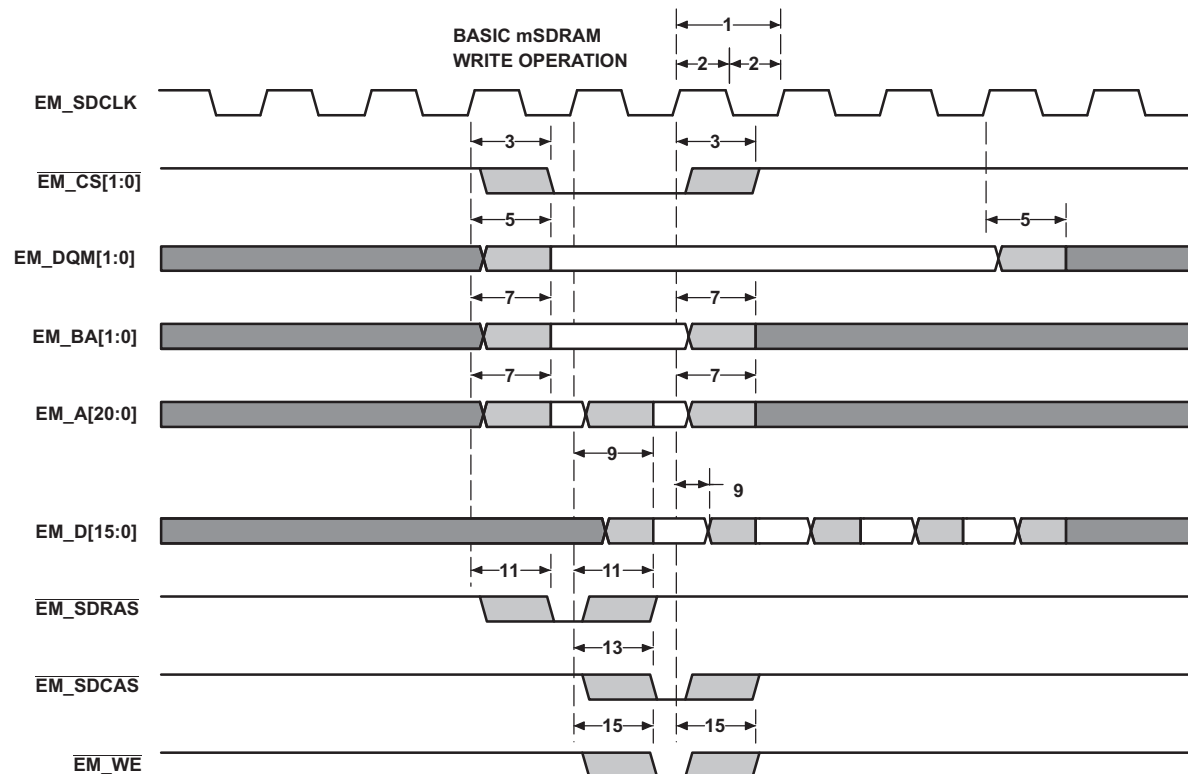
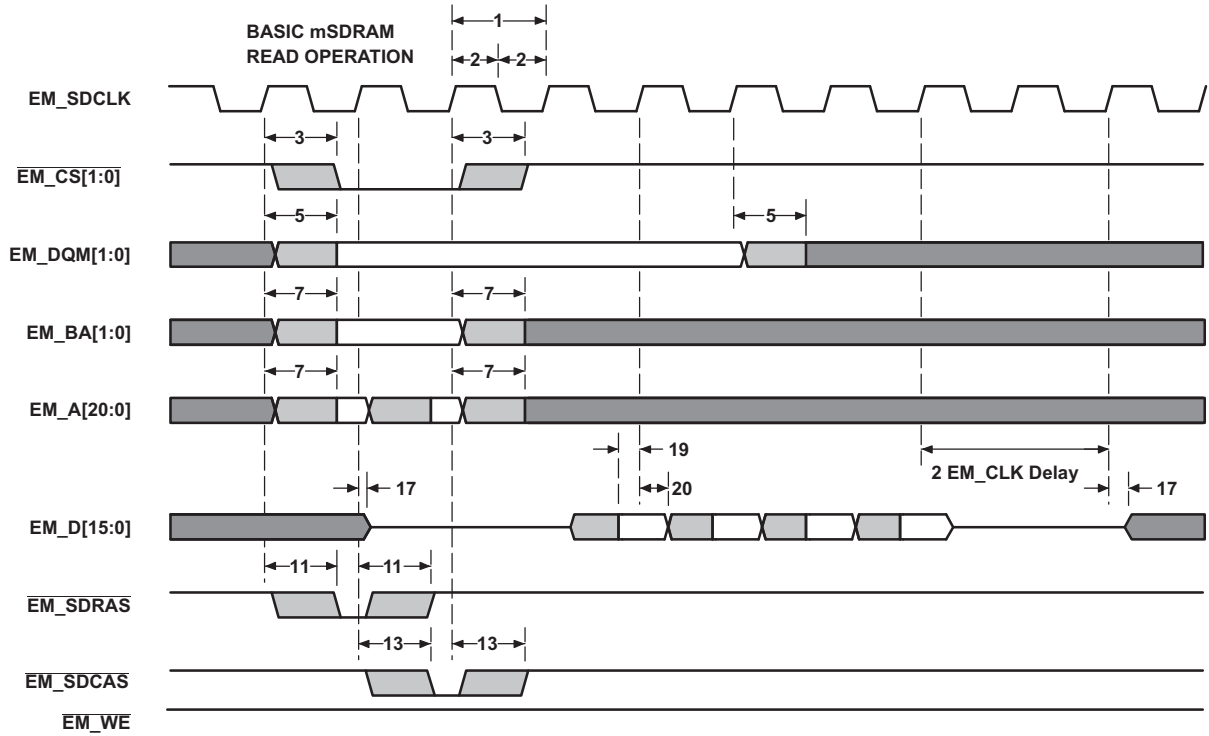

Figure 5-15. EMIF Basic SDRAM/mSDRAM Write Operation
Figure 5-16. EMIF Basic SDRAM/mSDRAM Read Operation
**Table 5-16. Timing Requirements for EMIF SDRAM/mSDRAM Interface(1) (see Figure 5-15 and Figure 5-16)**
(1) Timing parameters are obtained with 10pF loading on the EMIF pins.
**Table 5-17. Switching Characteristics Over Recommended Operating Conditions for EMIF SDRAM/mSDRAM Interface(1)(2) (see Figure 5-15 and Figure 5-16)**
(2) E = SYSCLK period in ns. For example, when SYSCLK is set to 60 or 100 MHz, E = 16.67 or 10 ns, respectively. For more detail on the EM\_SDCLK speed see Section 5.9.2, EMIF Non-Mobile and Mobile Synchronous DRAM Memory Supported.
(3) When  $CV_{DD} = 1.3\text{ V}$ , and  $DV_{DDEMIF} = 3.3\text{ V}$ , 2.75 V or 2.5 V, the max clock frequency on the EM\_SDCLK pin is limited to 100 MHz (EM\_SDCLK = 100 MHz). For more information, see TMS320C5515/14/05/04 DSP External Memory Interface (EMIF) User's Guide (literature number SPRUGU6).
(4) When  $DV_{DDEMIF} = 1.8\text{ V}$ , the max clock frequency on the EM\_SDCLK pin is limited to 50 MHz (EM\_SDCLK = 50 MHz). For more information, see TMS320C5515/14/05/04 DSP External Memory Interface (EMIF) User's Guide (literature number SPRUGU6).
**Table 5-18. Switching Characteristics Over Recommended Operating Conditions for EMIF SDRAM/mSDRAM Interface(1)(2) (see Figure 5-15 and Figure 5-16)**